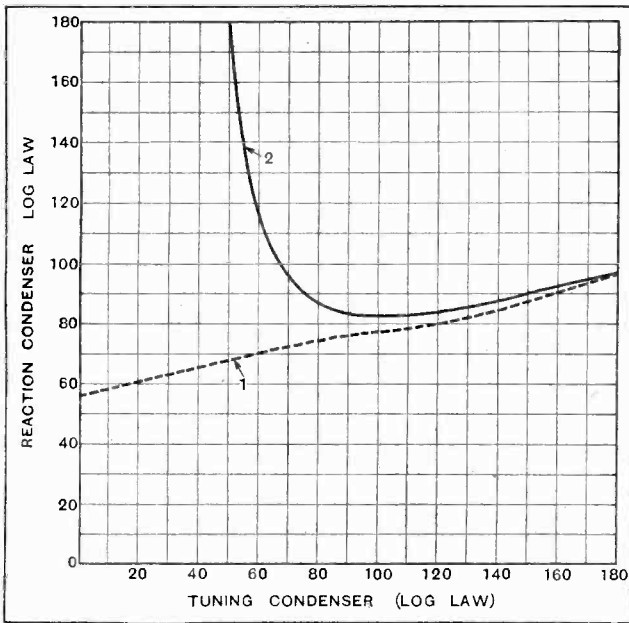

Fig. 3.—Curves showing reaction setting required just to oscillate (1) with no aerial, (2) with a high-capacity aerial.
To show whether the design is suitable, *i.e.*, that it does give either a constant setting or a uniform change of reaction over the whole waveband covered with the main tuning condenser, the curve No. 1 in Fig. 3 was plotted. This shows the setting of the reaction con-
Curve (1) in Fig. 3 is taken for the set without any aerial connected, and it shows that the reaction control involves a uniform change. The curve obtained with the writer's normal aerial had a very slight droop at the longer wavelengths, tending to make reaction more constant.
On connecting the receiver to a fairly long high-capacity aerial (within the P.M.G. limit), the interesting curve No. (2), Fig. 3, was obtained. This shows that the receiver will not oscillate at the bottom end of the tuning condenser scale.